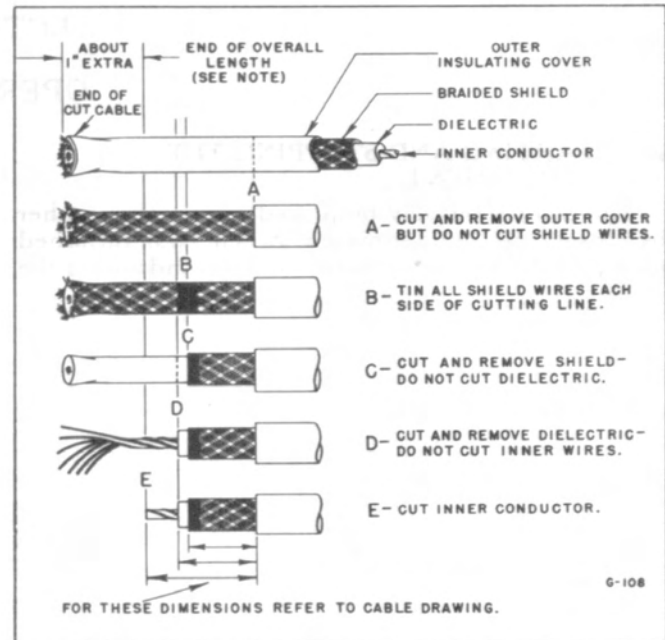

Figure 2-6—Preparing Co-axial Cables.
**i. INSTALLING THE PLUG BODY.** — The cable and the plug body should be held in such a manner that both hands are free. One method, using a jig to hold the cable while soldering the conductors to the plug body, is illustrated in Figure 2-6. However, a satisfactory expedient is to hold the plug body in a vise and loop the cable over a box or similar object.